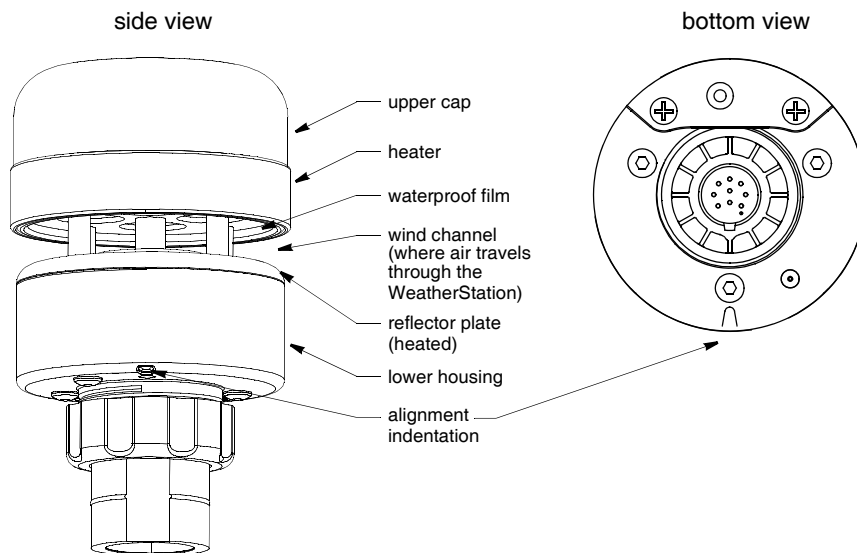

Figure 3. WeatherStation Instrument (150WX with heater shown)
**CAUTION:** The reflector plate and the waterproof film found in the wind channel of the WeatherStation Instrument are essential to its operation (see Figure 3). Be careful not to scratch the plate, puncture the film, or damage them in any way.